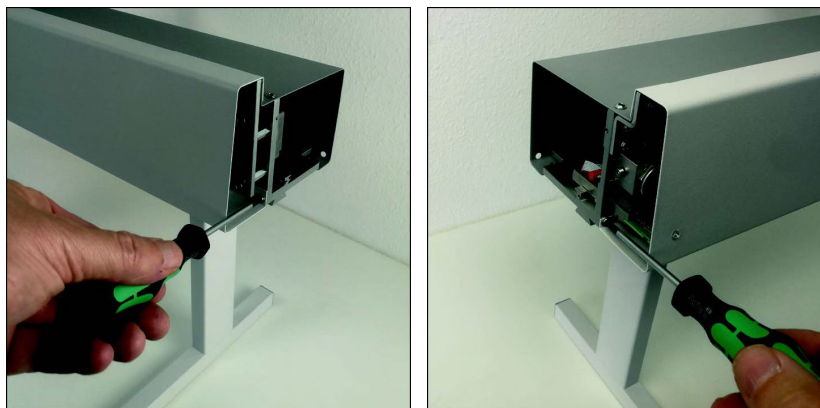

Figure 101: X-beam Front Cover Removal 4
5. Using a Torx Tx10 screwdriver, unscrew the inner screw of the X-beam front cover from the left and right sides, as show in Figure 101.